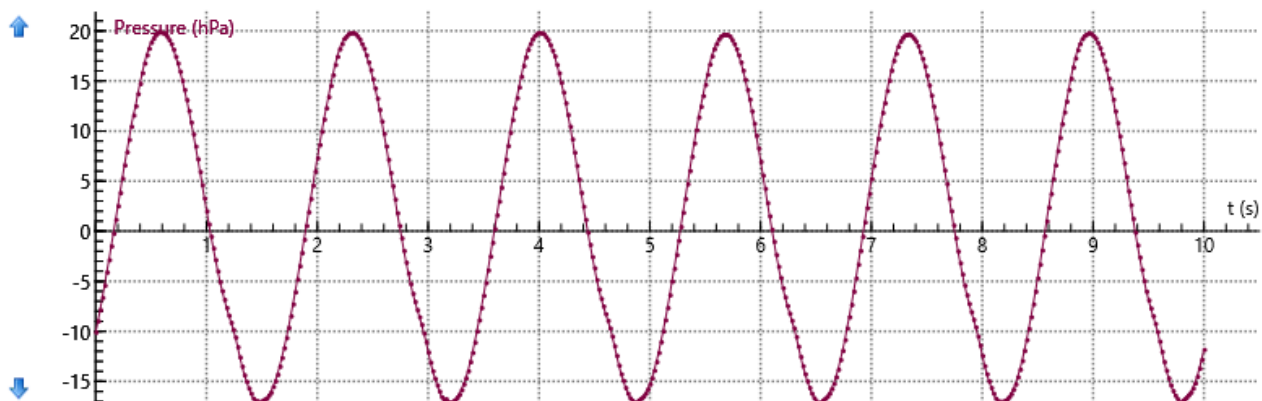

Fig. 1 Trace of pressure in the Stirling engine D
- Evaluate the curve resulting from the measurements (fig. 1).